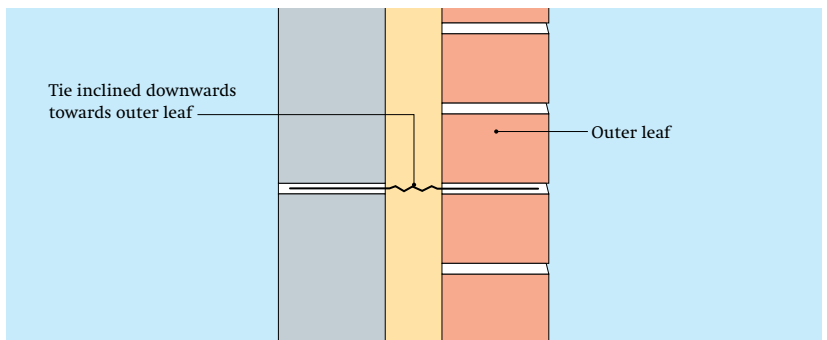
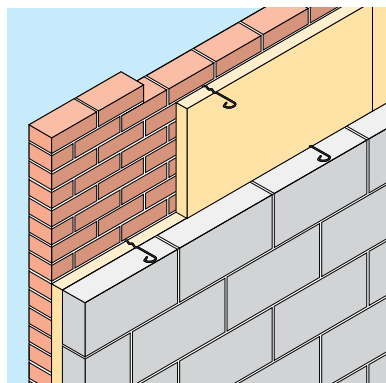

Figure 2 Correct wall tie installation
Figure 7
- 5 Fit Rockwool Cavity by compressing between the two rows of wall ties to form a clean and tight butt jointed course (Figure 7). Wall tie drips should be located centrally in the Batts (Figure 2). Ties must be inclined downwards towards the outer leaf.